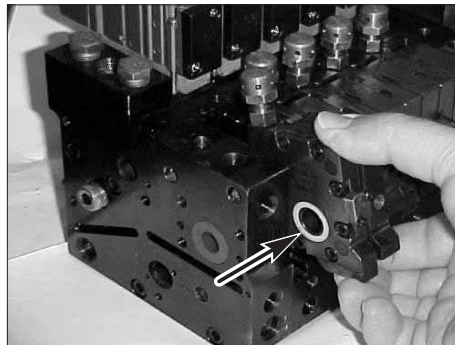

Figure 7-31 Location of the side seal on the last pump
4. See Figure 7-31. When installing the last pump, ensure that the pump side seal is fully inserted and flush with the pump surface. This will ease the installation and help prevent damage to the seal that could cause leakage. Installation may require *lightly* tapping the pump with a rubber mallet or dead blow hammer.